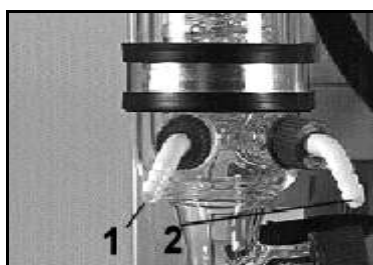

Fig. 16: Coolant supply of high performance condenser
**i** See fig. 16, page 29 for coolant inlet and outlet.
Coolant inlet and outlet see fig. 16.
**i** Coolant inlet and outlet see fig. 16.